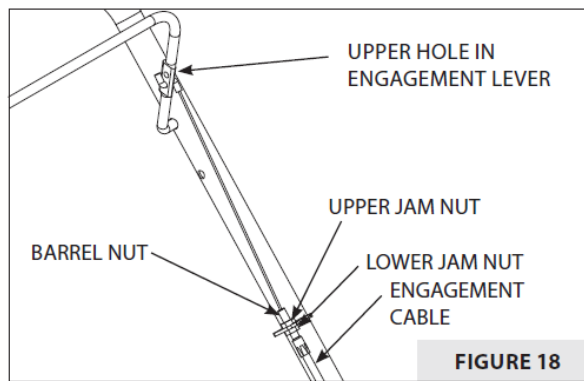

FIGURE 18
1. Loosen upper jam nut on engagement cable. **SEE FIGURE 18.**
NOTE: A second cable adjustment can be found on the engagement lever. The upper hole in the engagement lever can be used to further tension the belt. **SEE FIGURE 18.**